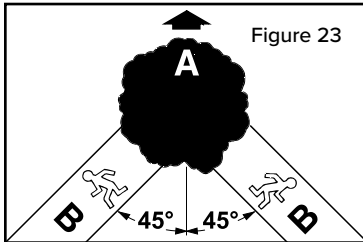

Figure 23
- The escape route (b) is at a 45° angle in the opposite direction (a) of the tree's fall direction (see Figure 23).